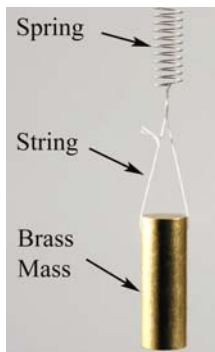

Figure 2. String
6. Tie a short piece of string through the hole in the brass mass as shown in Figure 2. Hang the mass, string, and spring assembly from one of the hooks on the back of the pendulum clamp.